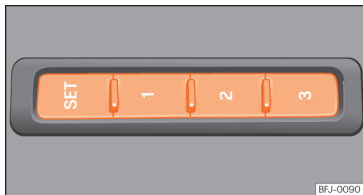

Fig. 146 On the outer side of the driver seat: memory buttons.
»» Fig. 146.
- Press and hold the  button **»» Fig. 146.**